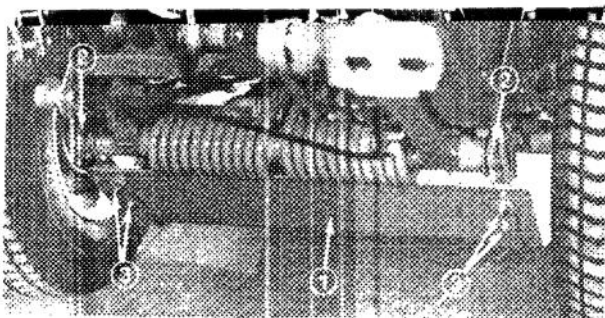

Figure 6
5. Secure Belly Shield to Belly Shield hooks with (2) $5/16$ locknuts on each side (Fig. 6).